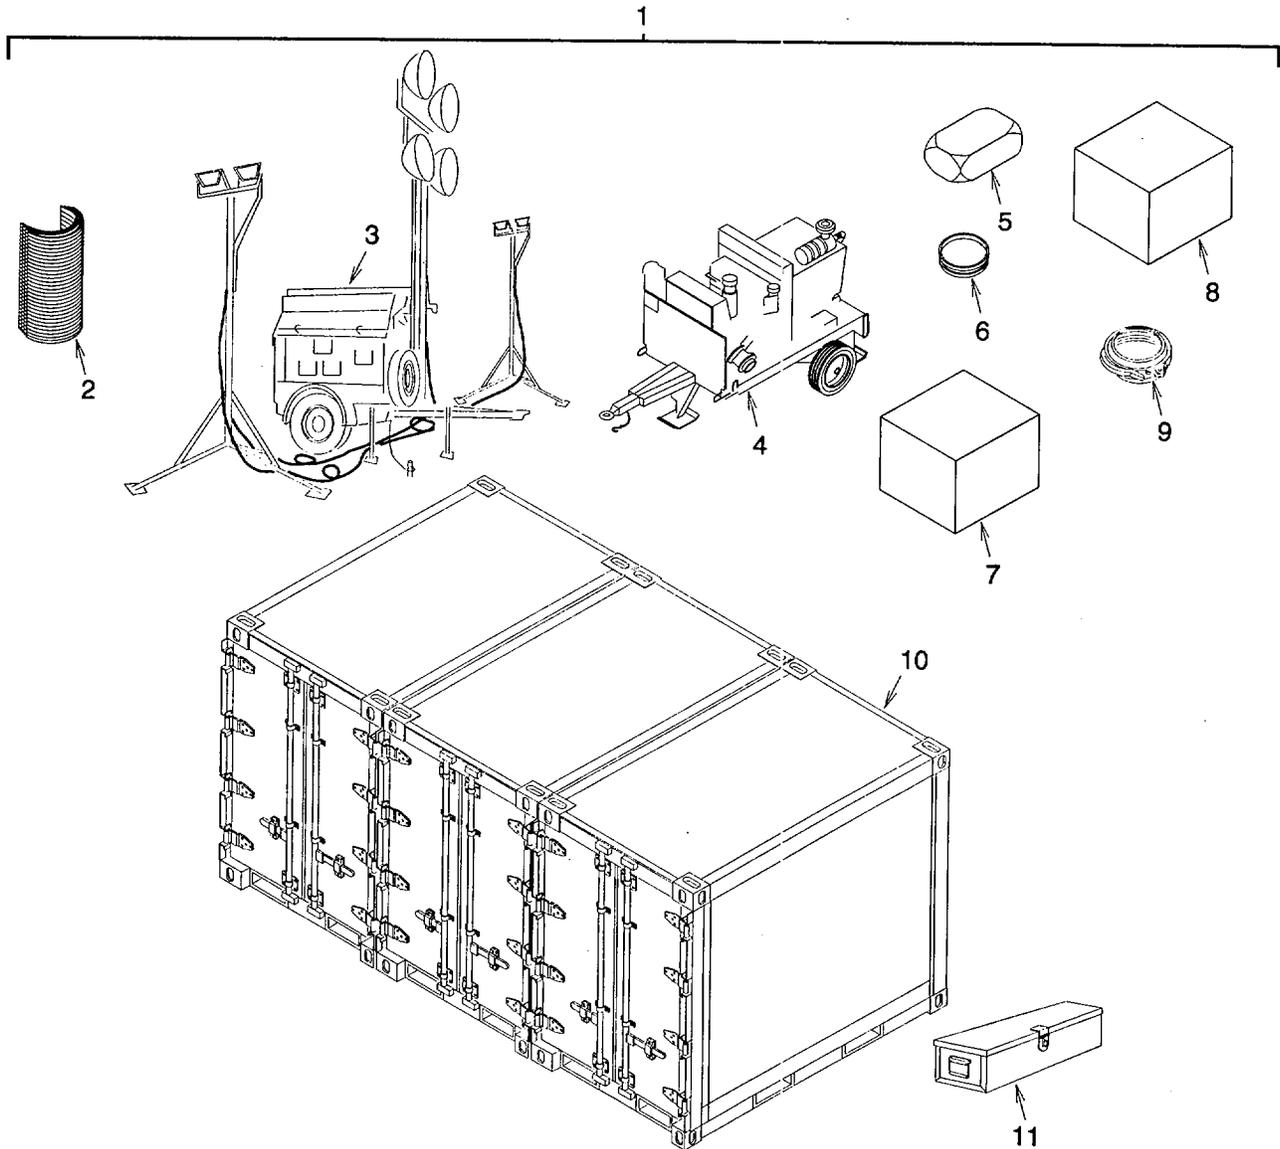

Figure C-16. Fuel Unit Support Assembly
* See fig C-16. This assembly is part of the Fuel Support Assembly.